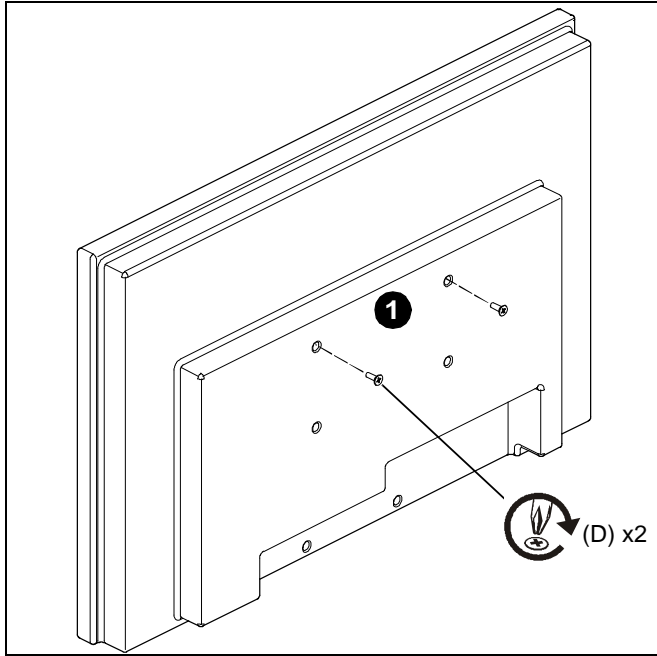

Figure 5
1. Partially install two screws (D) into upper mounting holes in display back. (See Figure 5)